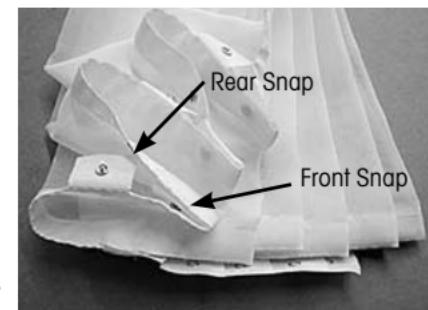

Figure B2
3. When the Sheer Magic™ is shipped to you, all of the snaps are attached to each other. It is very important to unsnap the rear snap only (not the front snap). (See Figure B2) This will make it easier to install the Sheer Magic™. The front snap forms a small fabric pocket or ledge for you to position the sheer onto the vinyl vanes.